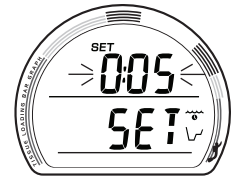

Fig. 35 - SET DTR ALARM
**SET DTR ALARM (TECH only)**, information includes (Fig. 35):